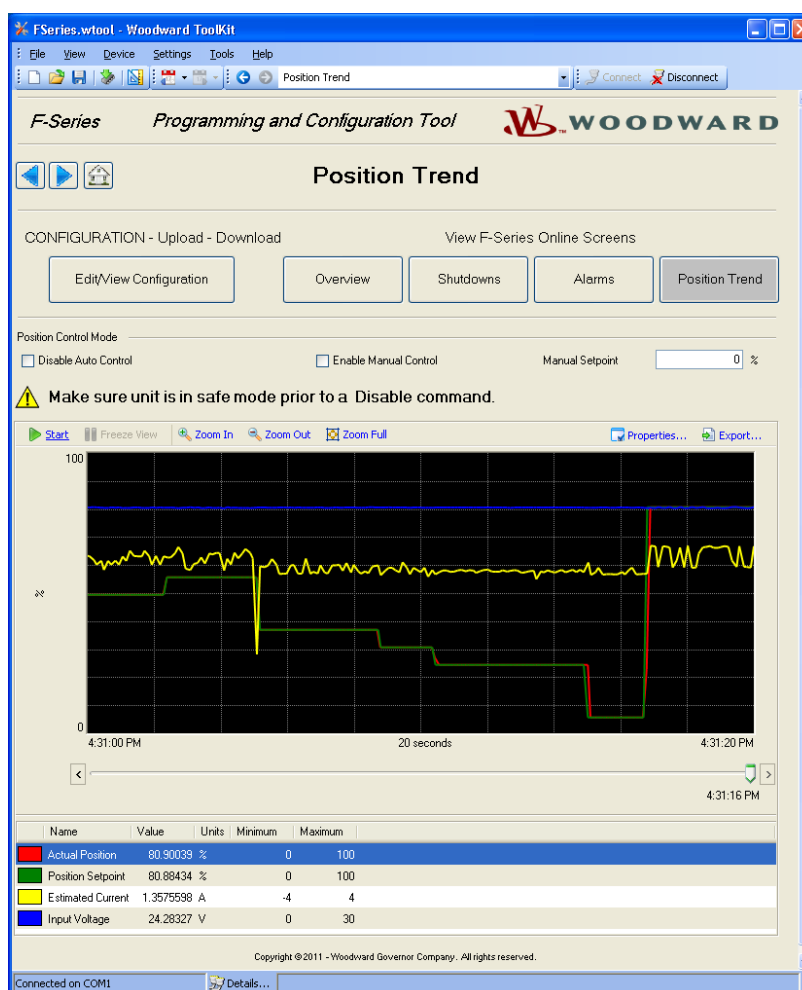

Figure 5-12. Position Trend Screen
- Position Trend (Figure 5-12)